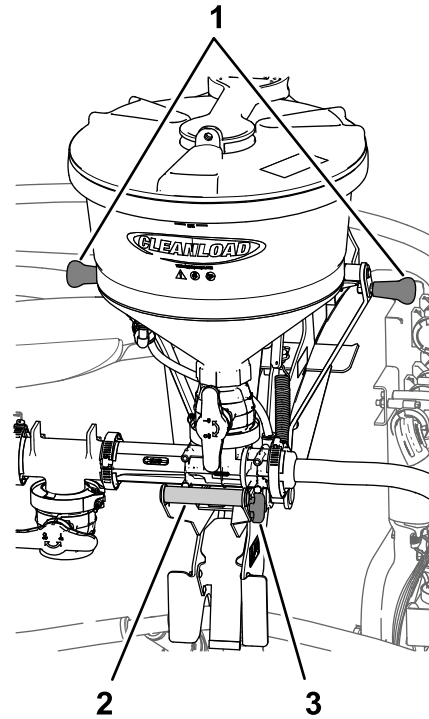
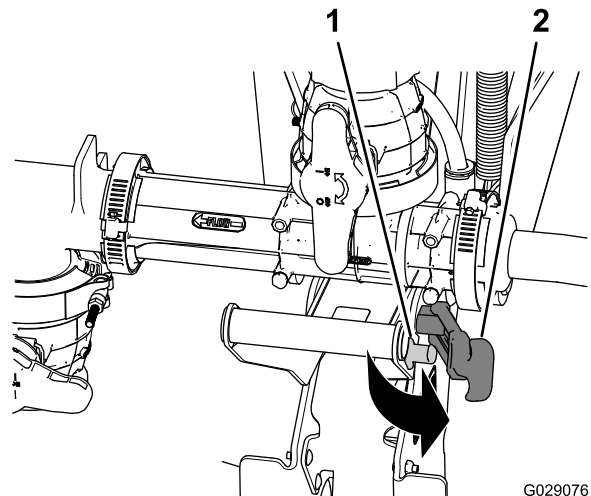
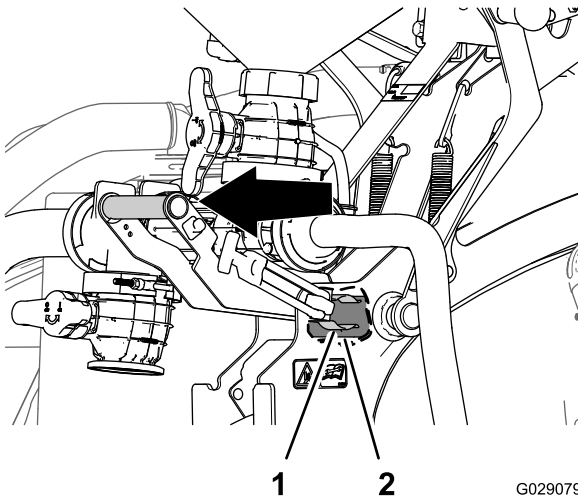
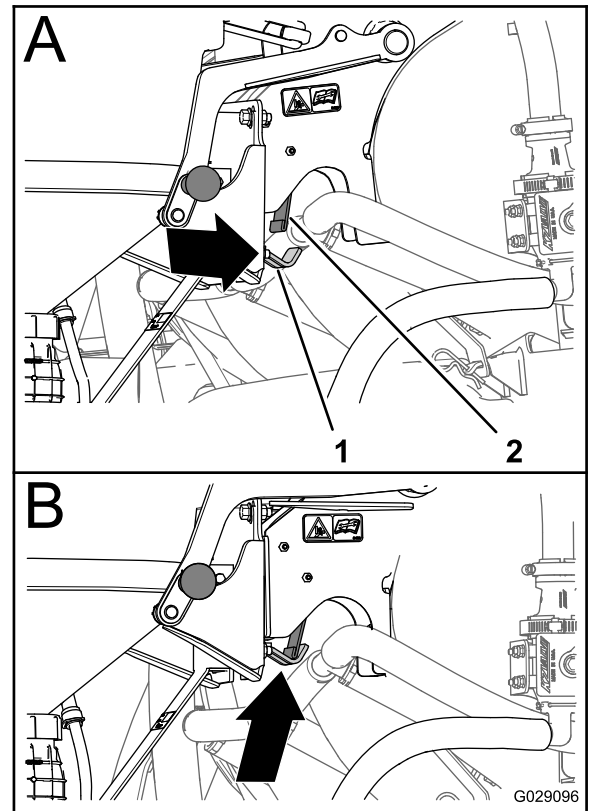

Figure 31
Figure 32
Figure 33 G029079
Figure 36 G029096
1. Grasp the eductor handle and pull the latch handle off the latch post (Figure 31 and Figure 32).
2. Grasp the eductor handle at the top of the cradle in addition to the eductor handle and pull the eductor handle out until the spring clip releases from the pivot tube (Figure 31 and Figure 33).
5. When the latch of the back plate is under the spring plate (A of Figure 36), rotate the eductor handle inward so that the hook portion of the latch is aligned behind the spring plate (B of Figure 36).
1. Grasp a handle at the top of the cradle in addition to the educator handle and pull the educator handle outward until the hook portion of the latch is aligned outward of the spring plate (Figure 33 and Figure 36).
4. Push in the educator handle so that the hook raises to the latch rod and the spring clip fully seats around the pivot tube (Figure 33).
5. Pull the latch handle onto the latch post (Figure 32).